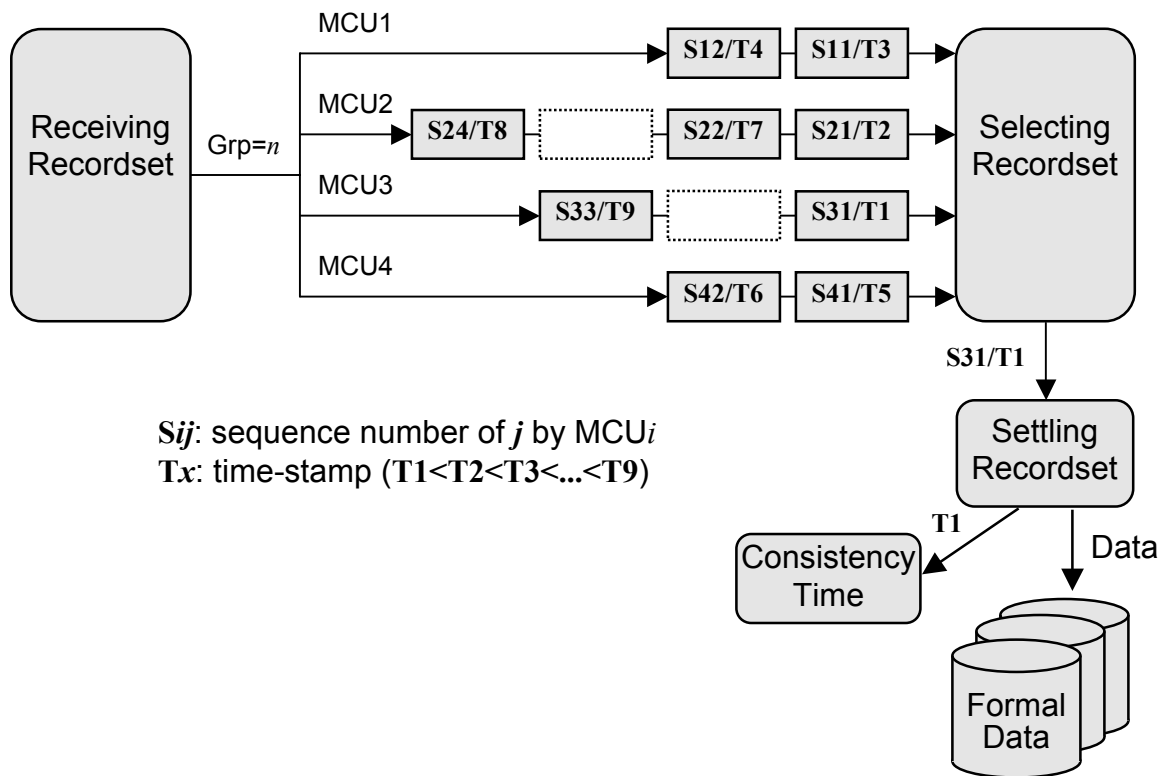

Figure 3.17.3-1 Example of Selecting Recordset at the RCU
- Figure 3.17.3-1 shows an example. All the top entries are filled with the recordsets of S11/T3, S21/T2, S31/T1 and S41/T5. The RCU selects the recordset of S31/T1 to be settled because the T1 is the smallest time-stamp. Then the top entry S31/T1 is removed from the MCU3's queue. The S32 becomes the top but it is empty. The next recordset S11/T2 will be selected when recordset S32 arrives and its time-stamp is smaller than T2.